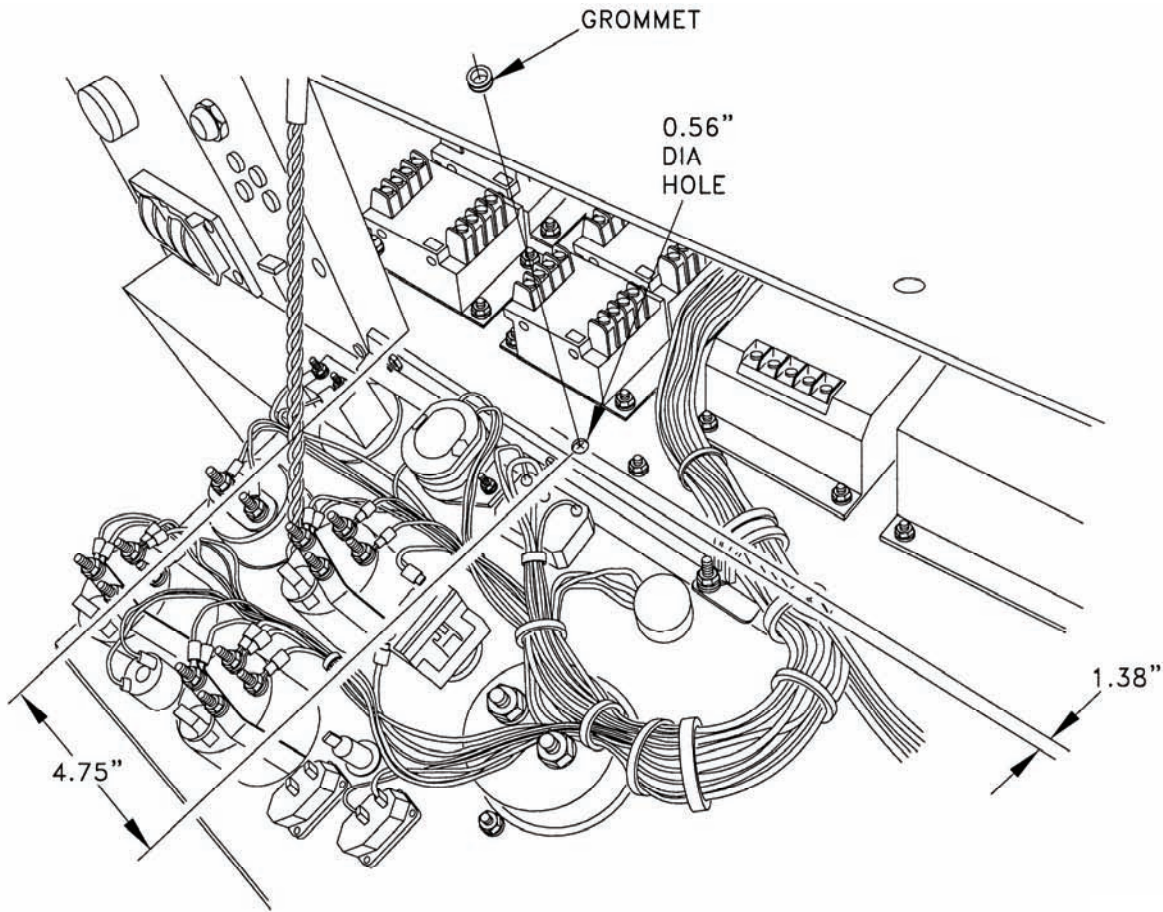

Figure 5-43. Control Panel Modification.
- b. Drill 0.56 inch (9/16 in.) hole in control box bottom panel approximately 1.38 inches (3.5 cm) back from hinge and 4.75 inches (12.1 cm) from left edge of front panel opening (Figure 5-43). Deburr edge of hole.